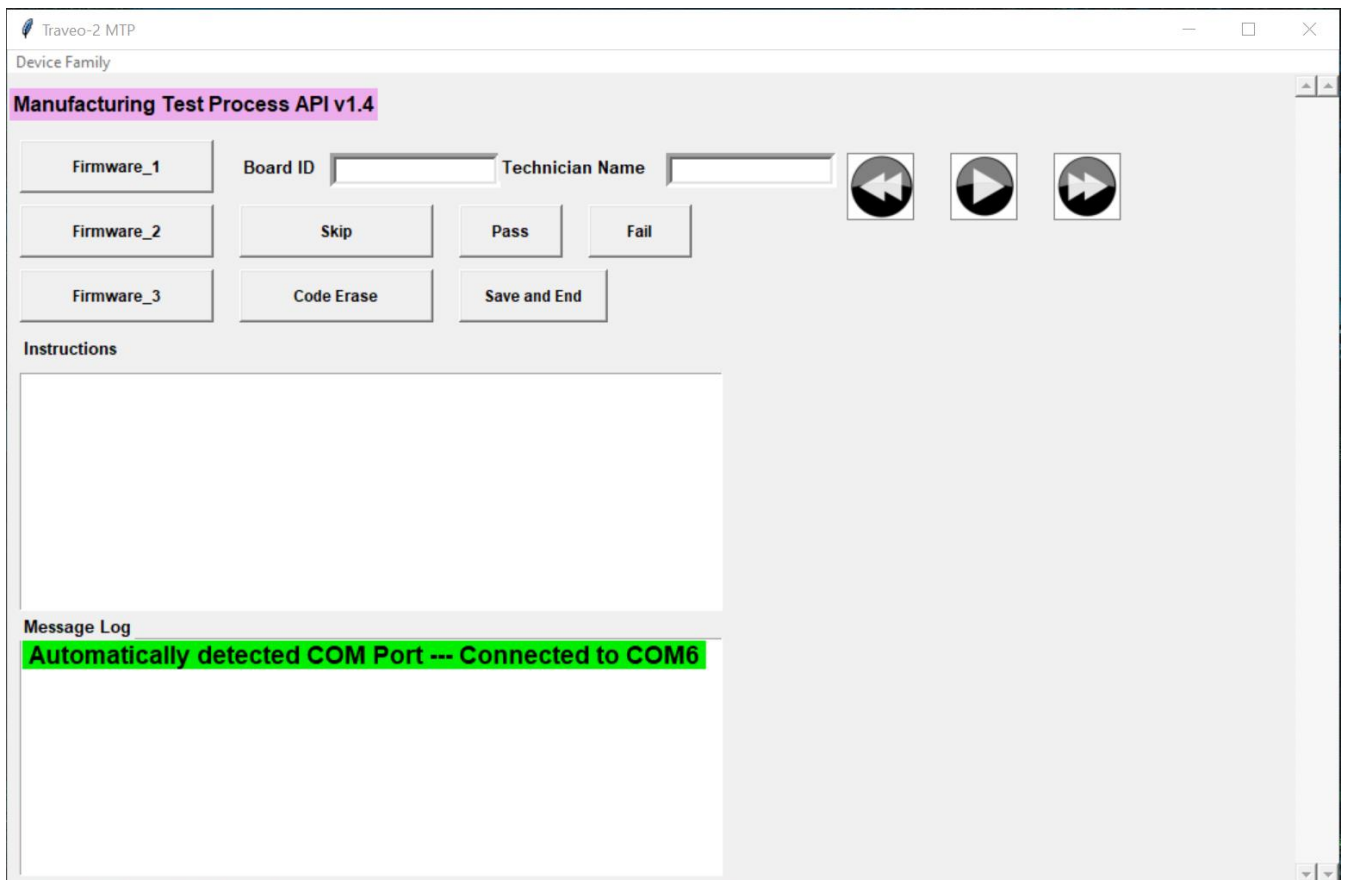

Figure 3 – MTP_GUI Window
- The window looks like as shown in Figure 3